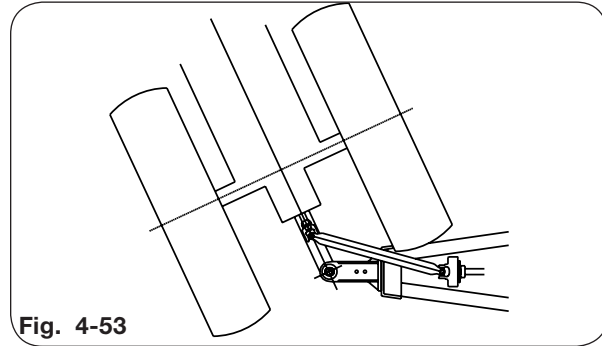

Fig. 4-53
6. Position the tractor to obtain the tightest turning angle, relative to the cart (Fig. 4-53).